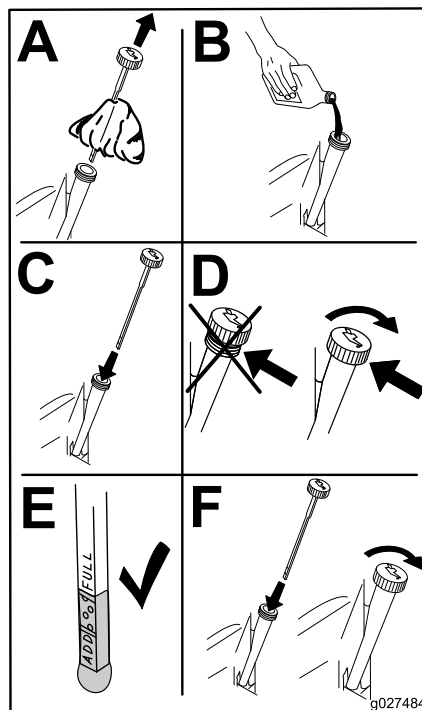

Figure 31
5. Slowly pour approximately 80% of the specified oil into the filler tube and slowly add the additional oil to bring it to the **Full** mark (Figure 31).